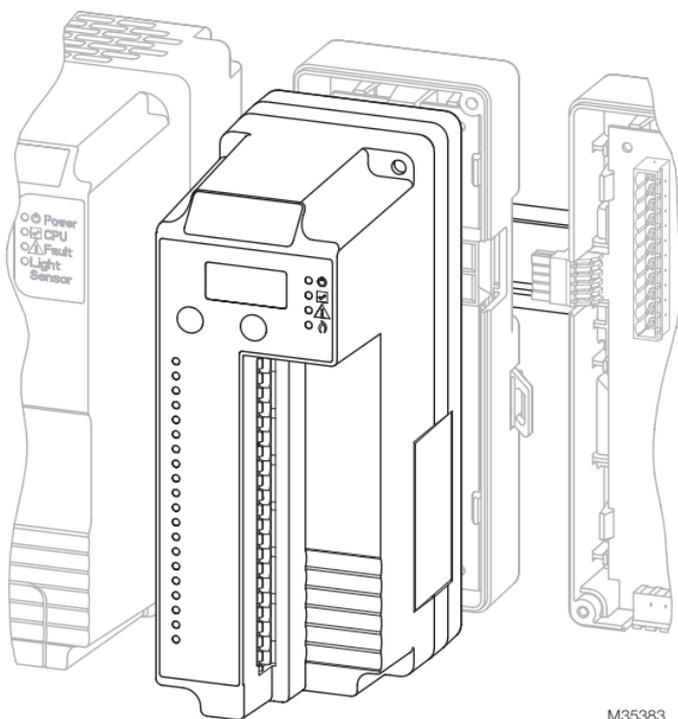

Fig. 3. Installing the IR Ampli-Check Flame Amplifier on the Sub-Base Module.
3. Install the Flame Amplifier on the Sub-Base. See Fig. 3.